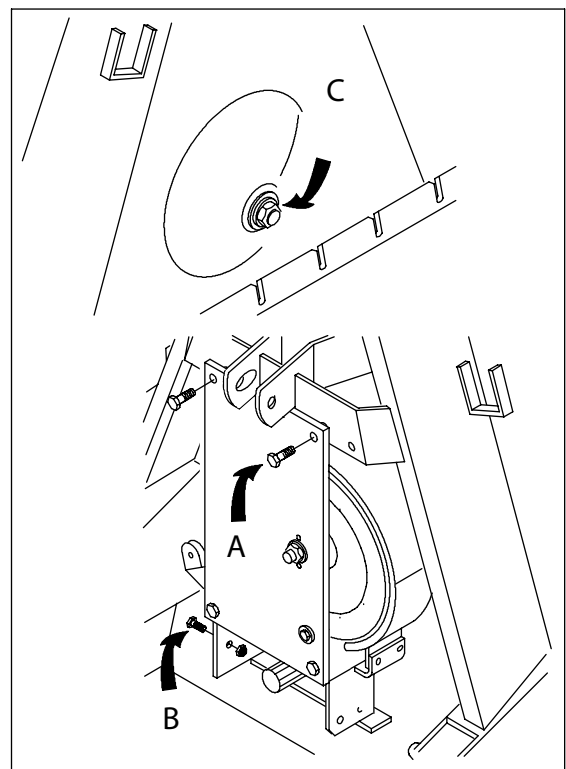

Fig. 19. Removing the winch mechanism
3. Remove the fastening bolts (fig. 19 pos. B) beside the drive shaft. Socket size 24 mm (15/16").
4. Remove the two bolts (fig. 19 pos. A) at the upper edge of the cover plate. Socket size 24 mm (15/16").
5. Remove the drum axle nut (fig. 19 pos. C) and the washer. Socket size 36 mm (1 7/16").